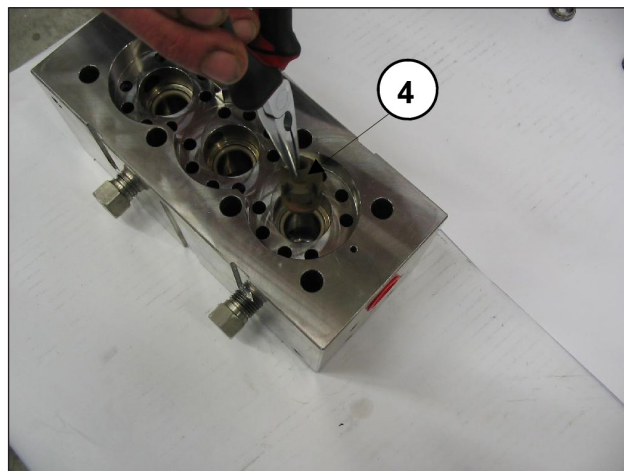
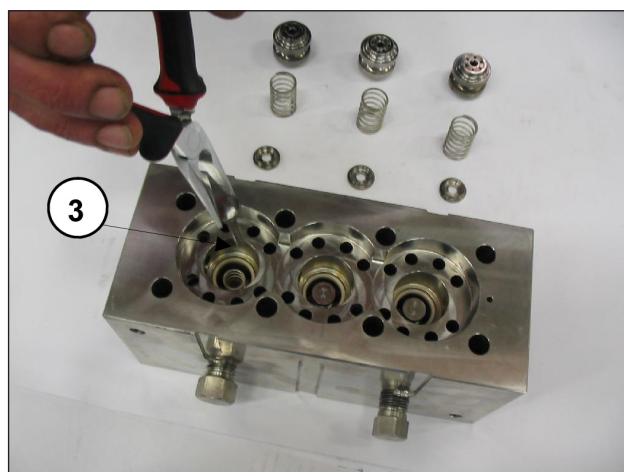

Fig. 44
Fig. 45
- Extract the outlet plates ③ and their guides ④ with the springs, as shown in Fig. 44 and Fig. 45, check for wear and replace if necessary, and in any case within the times indicated in the "PREVENTIVE MAINTENANCE" table of chapter 11 in the *Use and maintenance manual*.